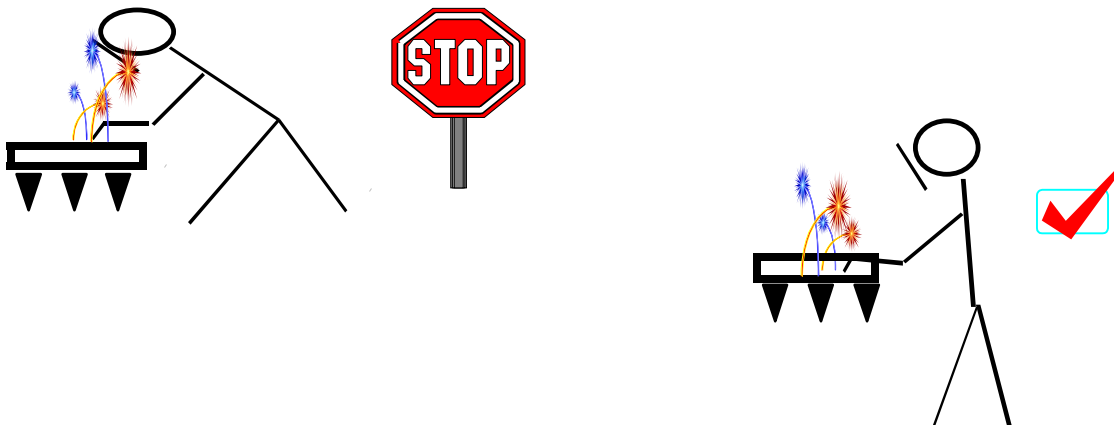

Figure 3. The welder's head should not enter the visible fume plume.
- 1) Arrange cutting to reduce operators exposure as shown in Figure 3. This also reduces fatigue and back problems.